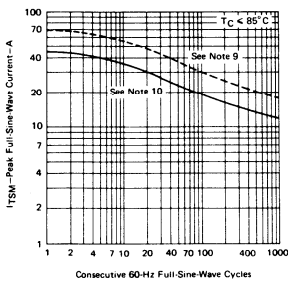

FIGURE 4
- For operation at current greater than 8 amps rms, see Figure 4.